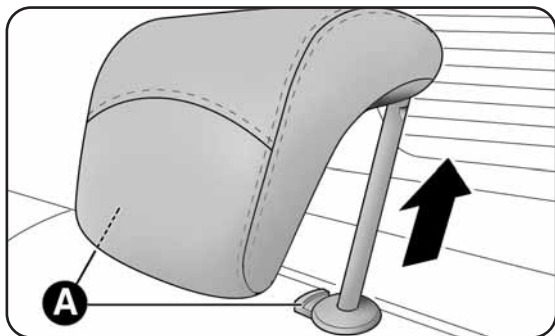

fig. 64
- raise the head restraints to the maximum height, press both buttons A-fig. 64 to the side of the two supports, then remove the head restraints by sliding them upwards;